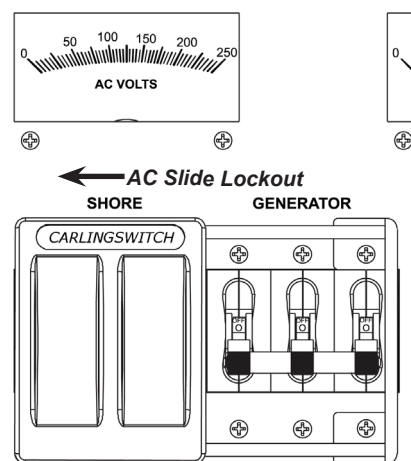

Figure H32: AC Cabin Panel - Main Breakers
2. The breaker switches for the SHORE and GENERATOR AC system must be placed in the OFF position and the AC slide lockout must be moved to cover the SHORE breakers switches. See Figure H32.